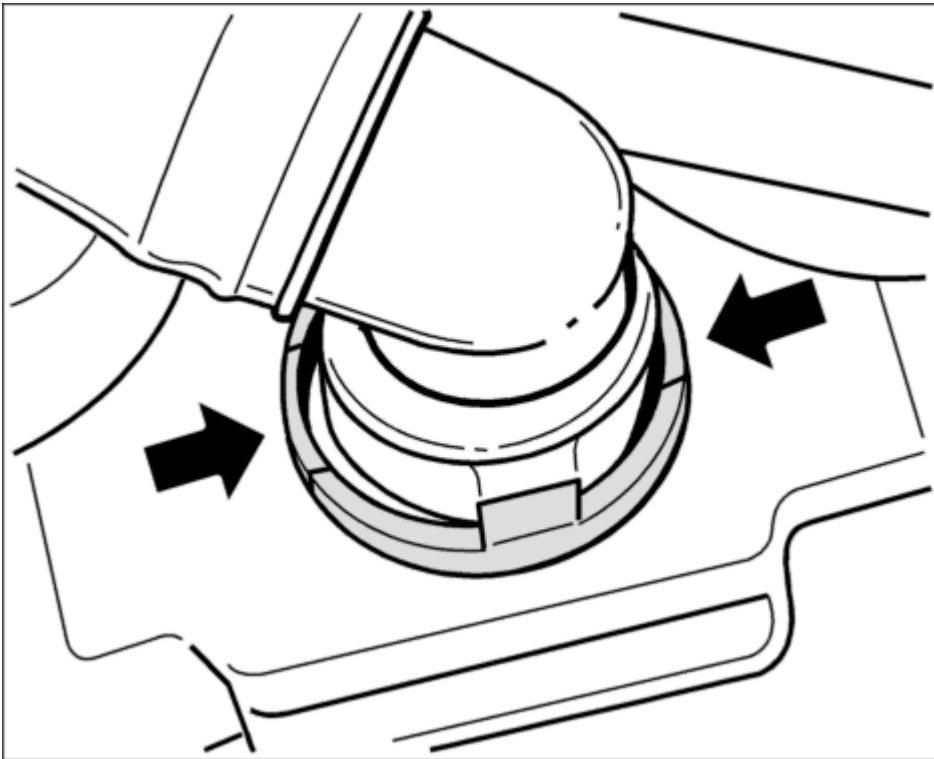

Fig. 436: Plug connection of the positive crankcase ventilation valve.
1. Press together the plug connection for the positive crankcase ventilation on the camshaft housing lid -see **arrows-** and pull it off. See **Fig. 436.**